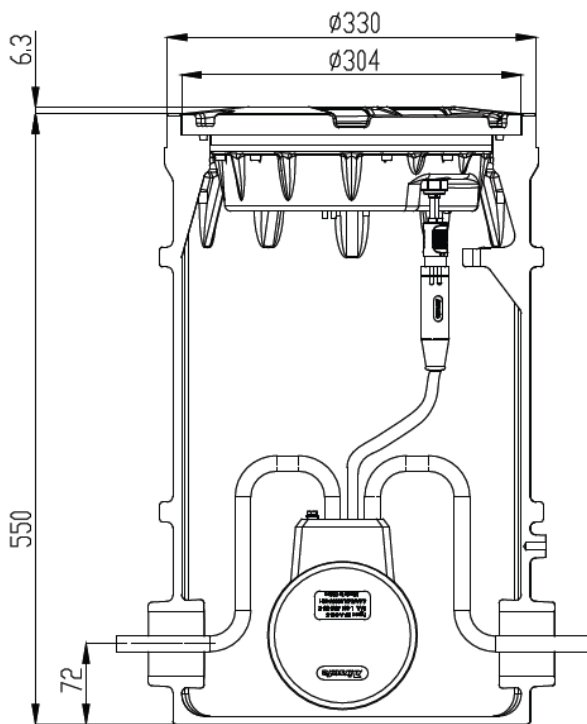

Figure 3-1
- Directly mounted on the 12 inches deep base (Figure 3-1).